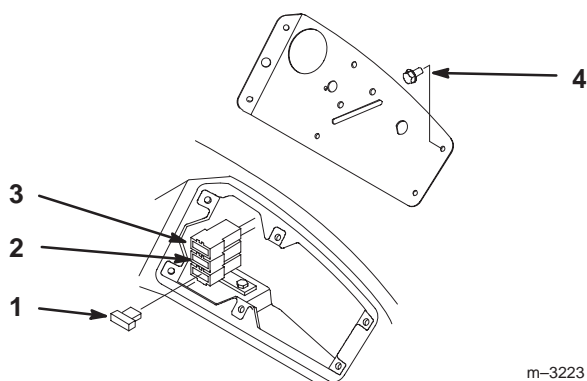

Figure 33
1. Remove dash panel screws to gain access to fuse holder (Fig. 33).
2. To replace fuses pull out on the fuse to remove it (Fig. 33).